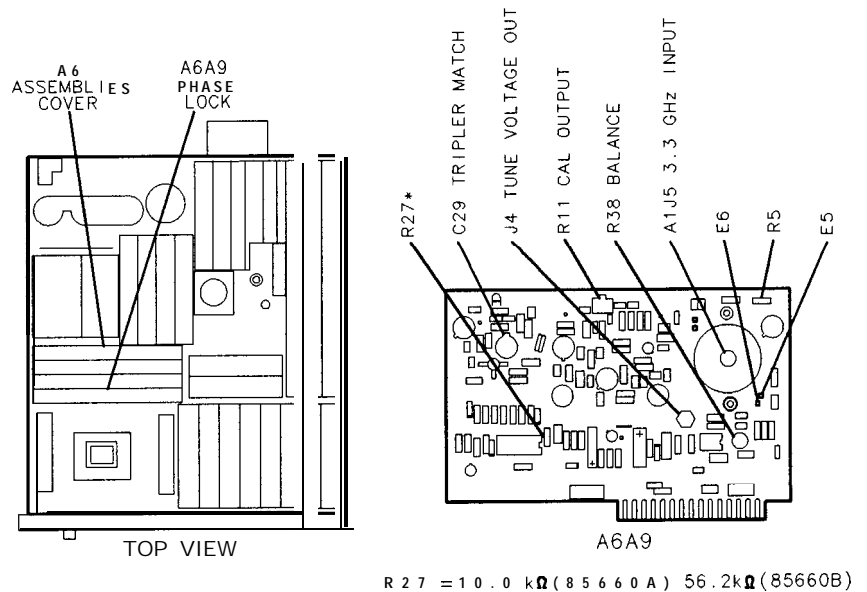

Figure 3-82. Location of RF Module Phase Lock Adjustments
2. In the RF Section, disconnect the cable 84 gray/yellow from A6A12J1 and the cable 82 (gray/red) from A6A12J2. Remove the cover from the A6 RF Module, and then reconnect the cable 84 (gray/yellow) to A6A12J1 and the cable 82 (gray/red) to A6A12J2. Refer to Figure 3-82 for the location of the A6A12 YTX Driver Assembly and the A6 RF Module.
6. Connect the DVM to A6A9A1E5, and connect the DVM ground to the metal case/shield of the A6A9 Phase Lock Assembly. Refer to Figure 3-82 for the location of A6A9A1E5 and A6A9A1E6.
The voltage at A6A9A1E5 should fall in the range of -0.55 Vdc and -0.85 Vdc, and the voltage at A6A9A1E6 should fall in the range of 0.55 Vdc to 0.85 Vdc. If either of the voltages at A6A9A1E5 and A6A9A1E6 do not fall within these ranges, change the value of factory-select component A6A9A1R5. Decreasing the value of A6A9A1R5 decreases the magnitude of the voltages at both A6A9A1E5 and A6A9A1E6. Conversely, an increasing the value of A6A9A1R5 increases the magnitude of the voltages at both A6A9A1E5 and A6A9A1E6. Refer to Table 3-3 for the acceptable range of values for A6A9A1R5, and to Table 3-4 for HP part numbers. Refer to Figure 3-82 for the location of A6A9A1R5.
10. Verify that the loaded value of factory-select resistor A6A9A1R27 is 56.2K ohms. Refer to Figure 3-82 for the location of A6A9A1R27.